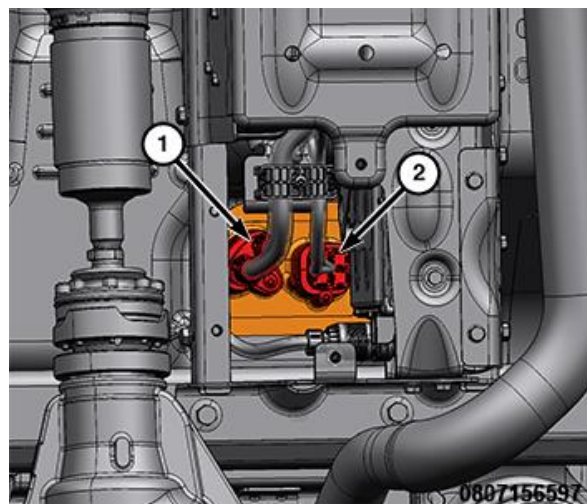

Figure 8 – HV Battery Wiring Connectors
27. Disconnect the HV wire harness connectors (1) and (2) from the HV battery (Figure 8).